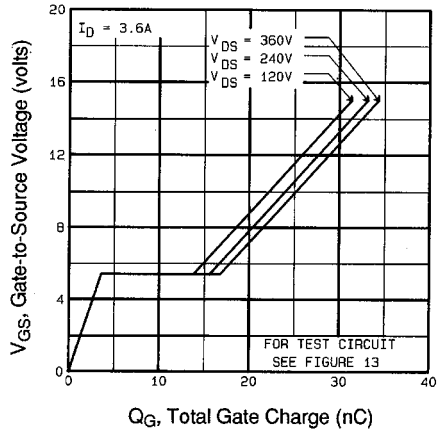

Fig 6. Typical Gate Charge Vs. Gate-to-Source Voltage
| Q_{gd} | Gate-to-Drain ("Miller") Charge | — | — | 17 | | $V_{GS}=10V$ See Fig. 6 and 13 ④ |